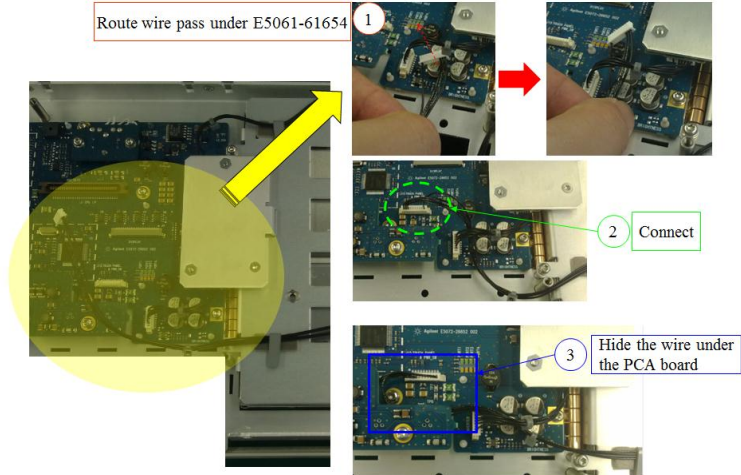

Figure 1-9
8. Connect the cable assemblies to the keyboard PCA as shown in figure 1-9.